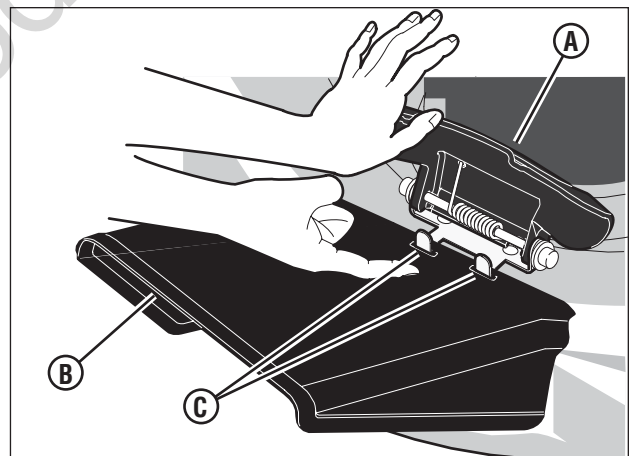

Figure 8: Installing the discharge deflector
1. Raise the mulching cover (**A**, **Figure 8**).